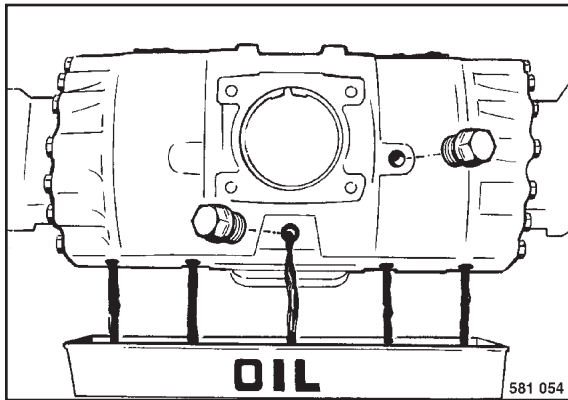

Fig. 129
- Clean and unscrew all level inspection and drain plugs (Fig. 129).